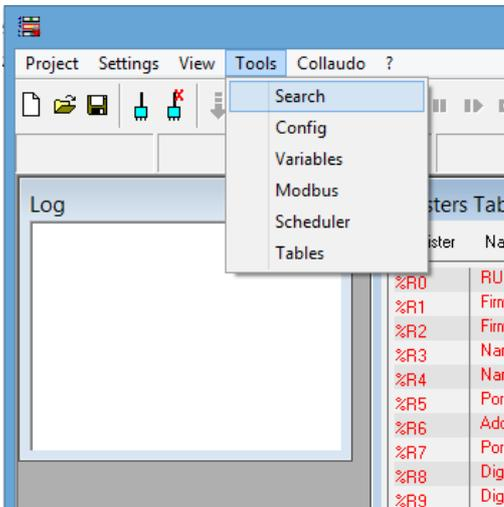

Fig 1.1: Tools → Search
- Click on Tools-> Search from toolbar; (Fig. 1.1)